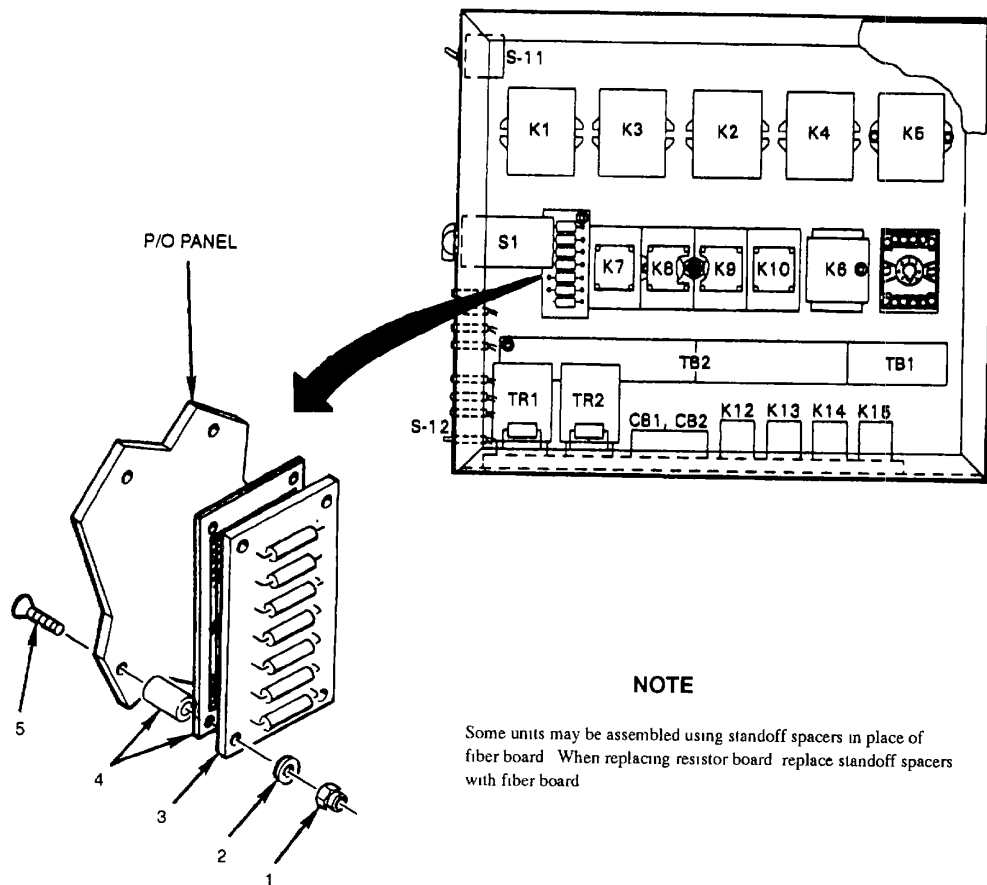

Figure 4-22. Resistor Board
- a. Check board for signs of overheating or other visible damage. Replace if damaged (see fig. 4-22)